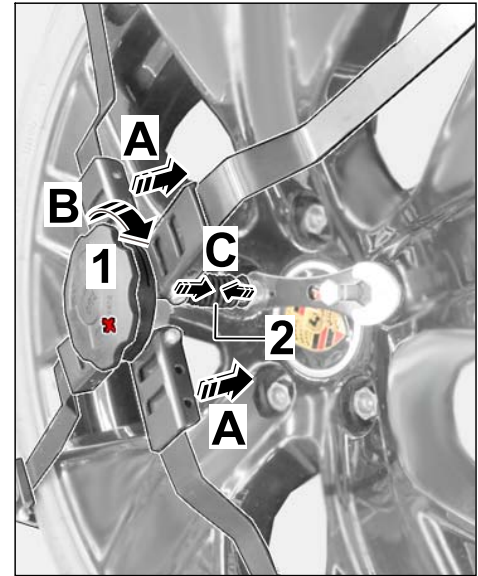

Figure 10
2.3.2 Press knob area of snow chain onto the rear wheel (⇒ *Figure 10-A*).
At the same time, turn the knob as far as it will go to the right (plus "+" sign ⇒ *Figure 10-B*) until the bellows is pressed together (⇒ *Figure 10-C*).